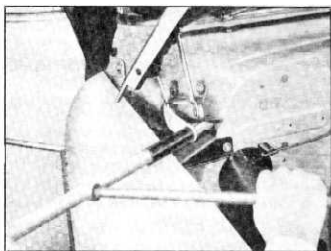

Fig. 5—Removing Hood Spring
2. Using J-3181, Hood Spring Remover and Replacer, remove spring (fig. 5).
3. Using either J-3181 or J-5544 Hood Spring Remover and Replacer Tools, remove hood springs (fig. 5 or 6).